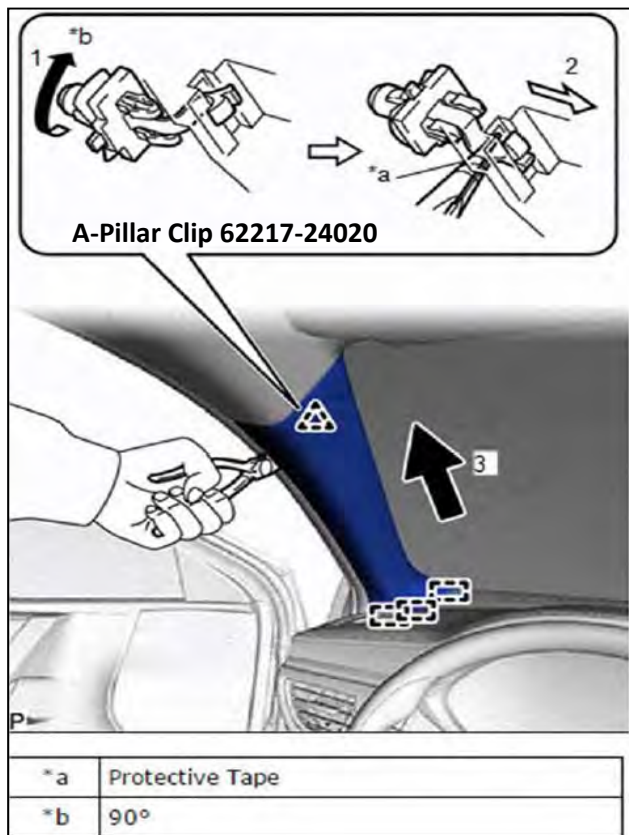

Figure 4
4. Using needle-nose pliers with the tips wrapped with protective tape, rotate the front pillar garnish clip 90° in the direction indicated by the arrow (1) shown in the illustration. Pull the front A-Pillar garnish assembly LH in the direction indicated by the arrow (2) shown in the illustration to disengage it from the front A-Pillar garnish clip. Pull the front A-Pillar garnish assembly LH in the direction indicated by the arrow (3) shown in the illustration to disengage the 3 guides to remove the front A-Pillar garnish assembly LH. Remove the upper A-Pillar garnish clip. **The clip CAN NOT be reused. DESTROY and DISPOSE of clip.** See figure 4.